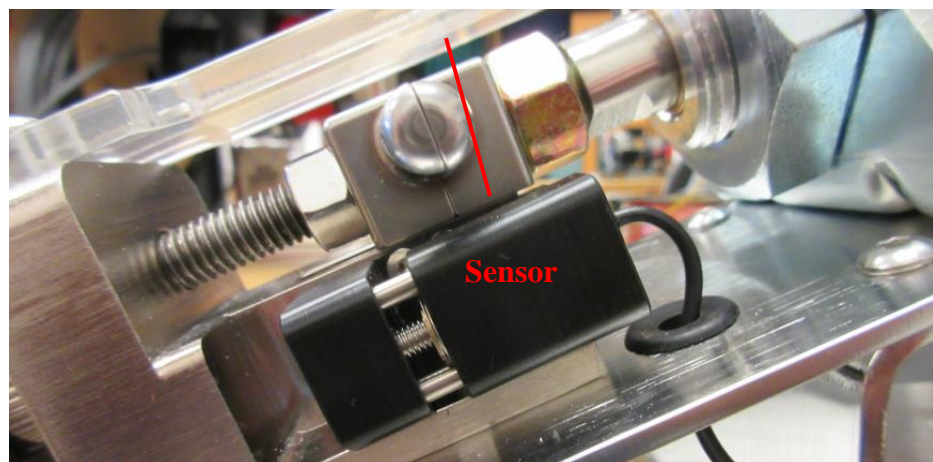

Figure 6: Photo-sensor line of sight
- The CRD202 is designed to be used with a photo-sensor that will automatically sense the presence of tubing over the jaws. The sensor is aligned against the tangent of the jaw as shown in figure 6 below: